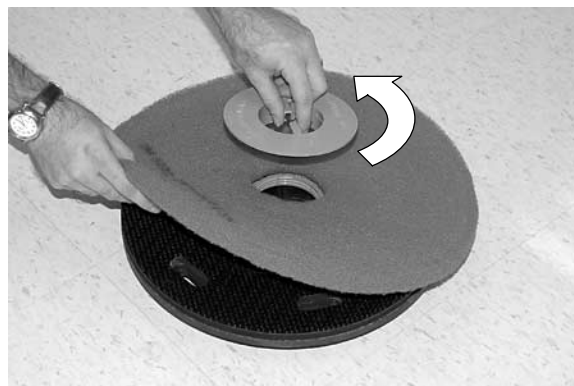

FIG. 6
2. Position pad on pad driver. If machine is equipped with plastic centerlock, secure pad with lock (Figure 6).